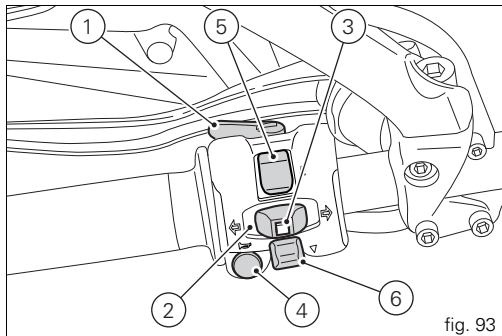

fig. 93
- 2) Button  = three-position turn signal (fig. 93):